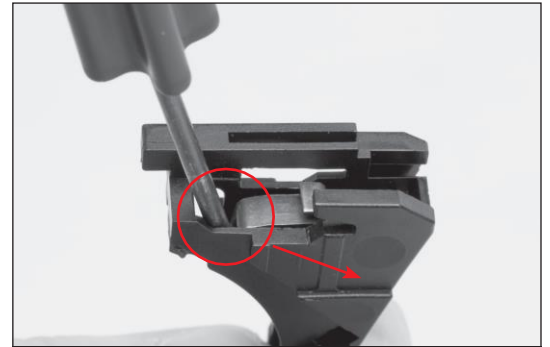

Fig. 70
- Using the pin punch or a screw driver, press the trigger spring bearing down and slide it to the front until you can see the tip of the trigger spring rod protruding from the trigger mechanism housing. (Fig. 70)